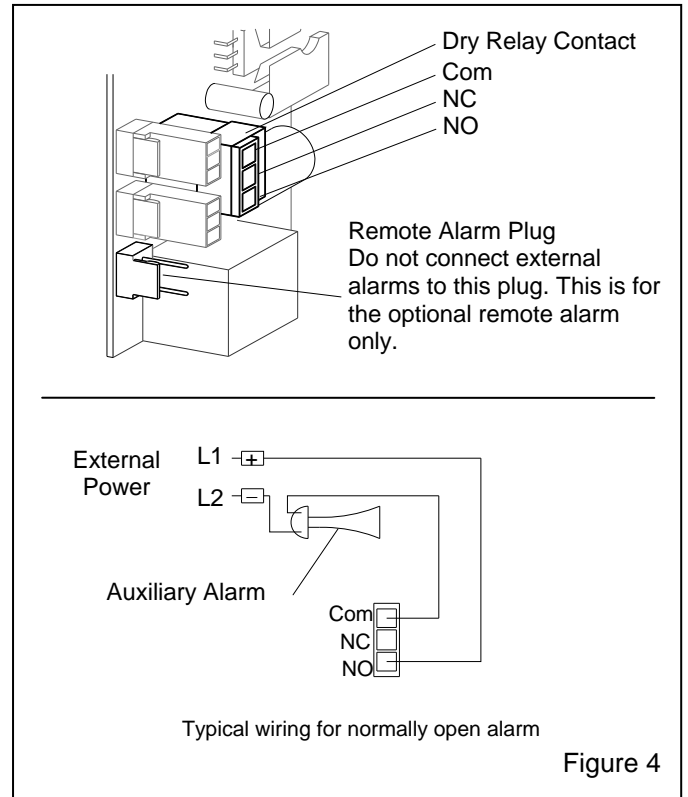

Figure 4
2.4 External Alarm and Shut-Down Device. Refer to Figure 4. Note: External alarms require external power. Do not confuse an external alarm with the optional remote alarm, which does not require external power.
2.4.1 A dry relay contact is mounted on the circuit board (Ref. Figure 4), for use with external alarms and shut-down devices. These contacts are rated at 5 amperes. Use the contacts to operate relays for external devices.